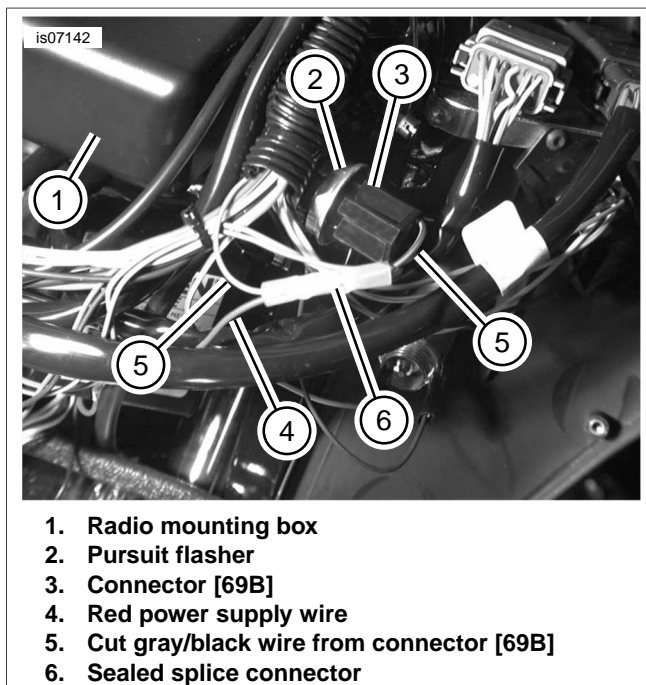

Figure 13. Pursuit Flasher and Flasher Connector (2013- Earlier FLHTP Models)
8. See Figure 13. Route the red power supply wire (4) upward and toward the right side of the plastic radio mounting box (1).